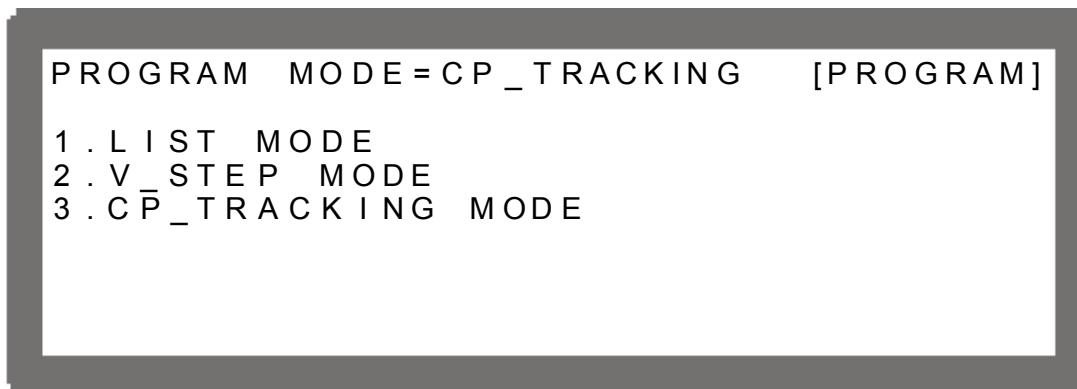

Figure 4-1
2. The LCD displays the PROGRAM options as shown in Figure 4-1 .
5. Press “” to return to Figure 4-1.
4. Press “” to return to Figure 4-1.